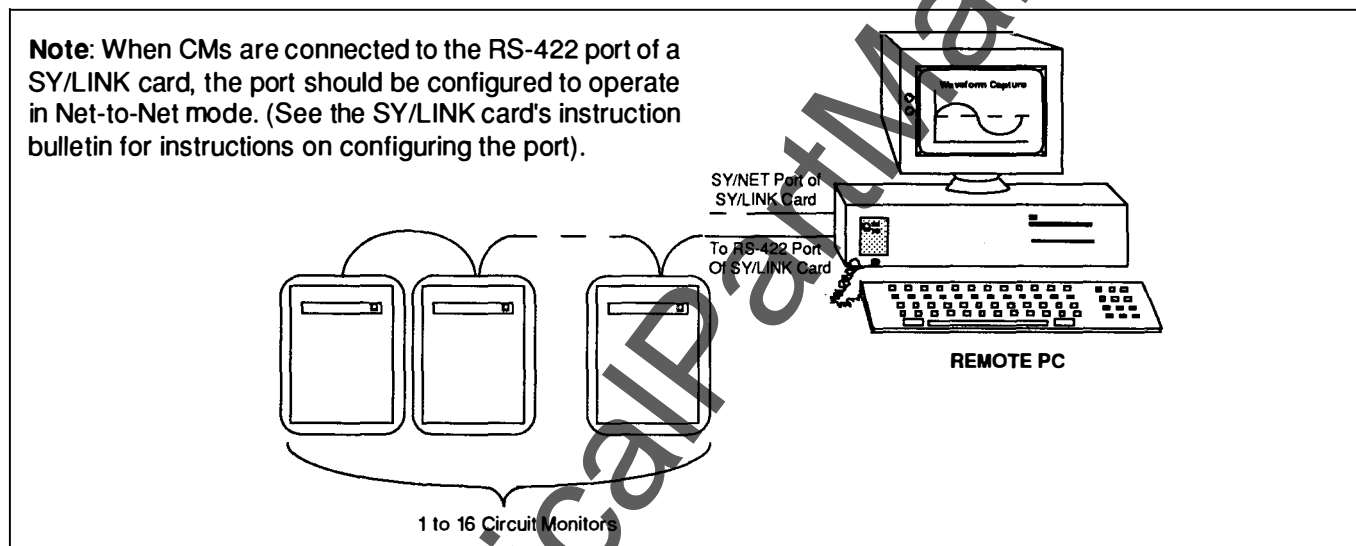

Figure 6-3 - CM Connection to Remote PC Via RS-422 Port of SY/LINK Card
- 2) Connection to a remote personal computer via the RS-422 port of a SY/LINK Card (See Figure 6-3).